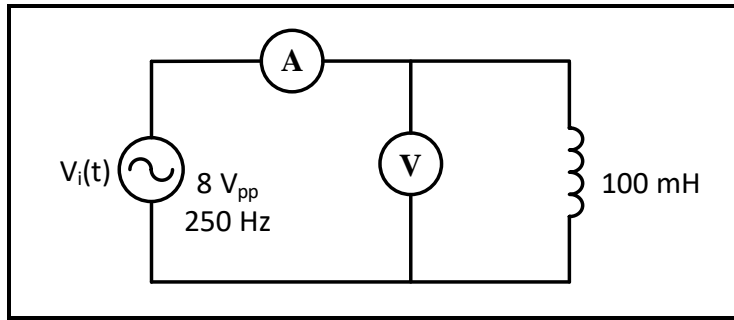

Figure 7.9
3. Connect the circuit in Figure 7.9, set V_{in} to sinusoidal voltage at $8 V_{pp}$, $f = 250$ Hz.
a. Repeat steps (a) and (b) in (1) for the circuit of Figure 7.9 record results in Table 7.3.